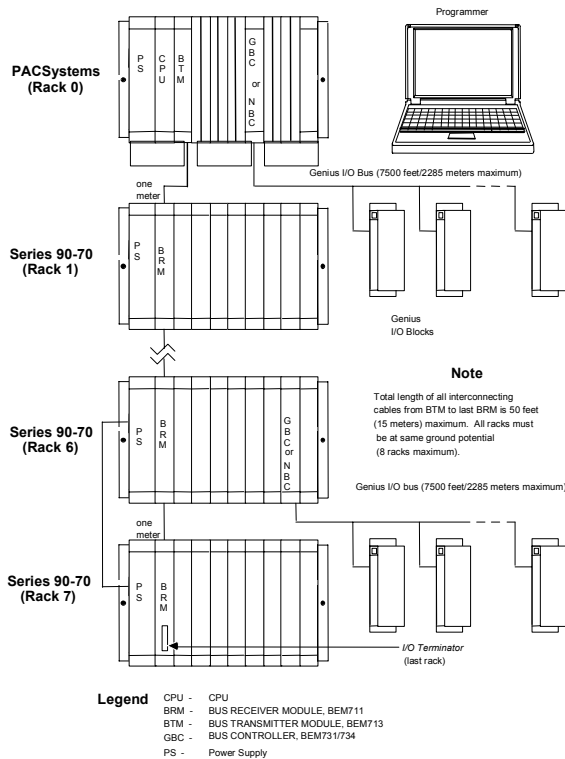

Figure 1. Control System Configuration Example
3. Install the CPU module in slot 1 of rack 0 (see Figure 1). Ensure mounting screws are tightened to completely secure the CPU in the rack.